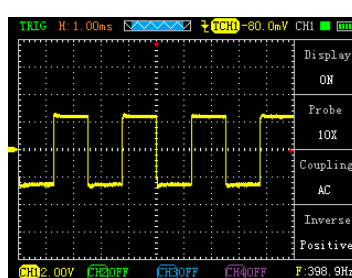

Figure 2-5
- Press "CH1" → "Coupling AC", press "F3" set to AC coupling. DC component of the input signal is blocked. As Figure 2-5